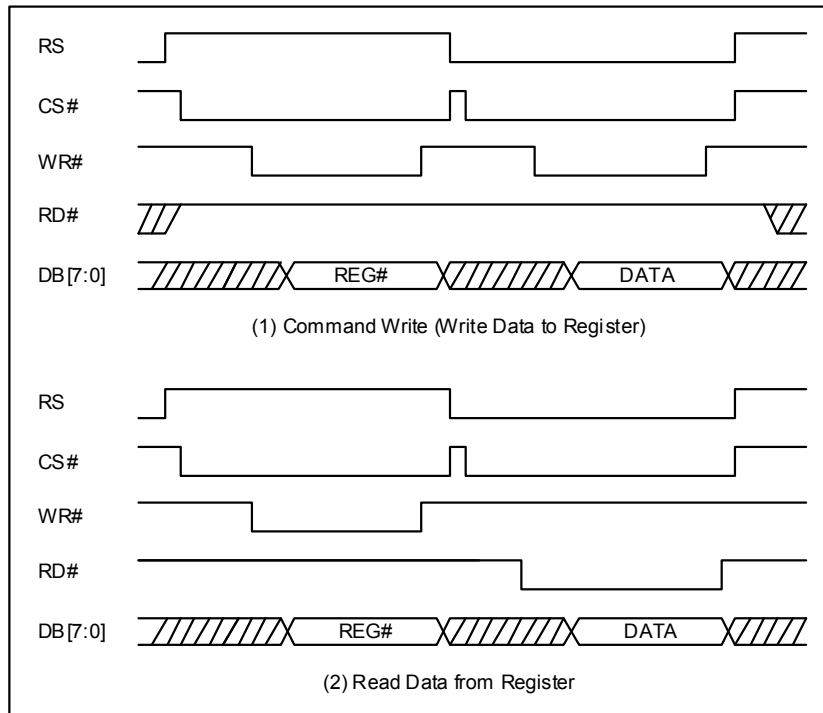

Figure 6-27 : Register Write/Register Read
RA8875 contains dozens of registers. If users want to write a command into the register of RA8875, they must execute the command write cycle first, i.e. the address of register, and then execute the data write cycle for storing a new data into the target register. So “Write Command” means that it will write a new data into the register. Please refer to the Figure 6-27 (1) for the related access timing.
To read the register contents of RA8875, it has to execute the command write cycle first, and then a “Data Read cycle” follows it. Please refer to the Figure 6-27 (2). But please note that the Figure 6-27 is based on 8080 interface.